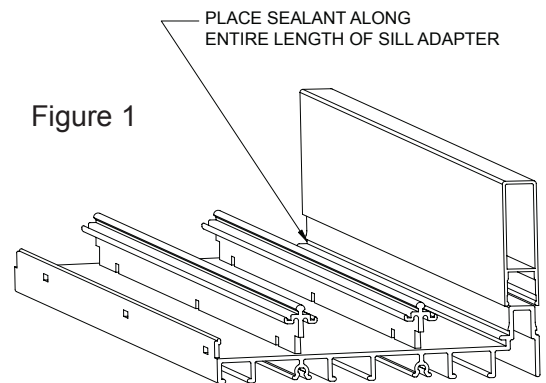

Figure 1
1. Start by applying the sill adapter to the mainframe sill, it will need to be tapped into place with a plastic or rubber mallet. Place sealant along the edge where the two extrusions will overlap. (See Figure 1)